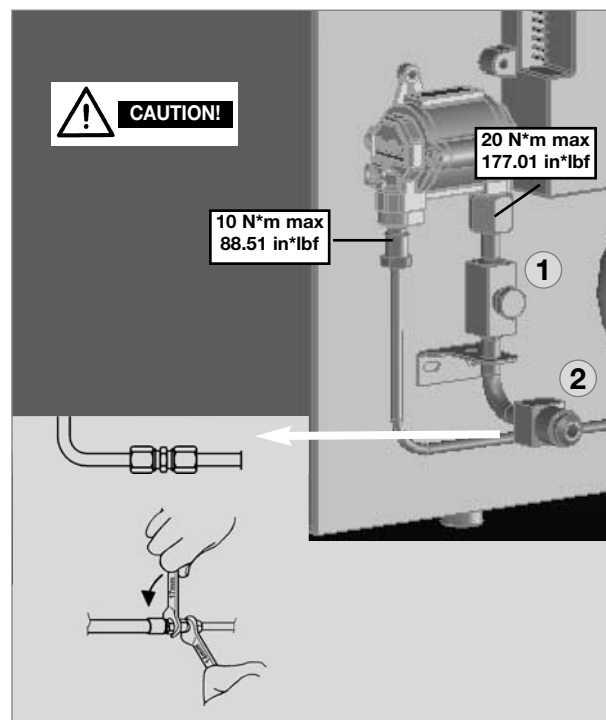

Fig. 44
- The gas connection to the appliance is effected by means of suitable coupling tube fitting (s. figure 44).